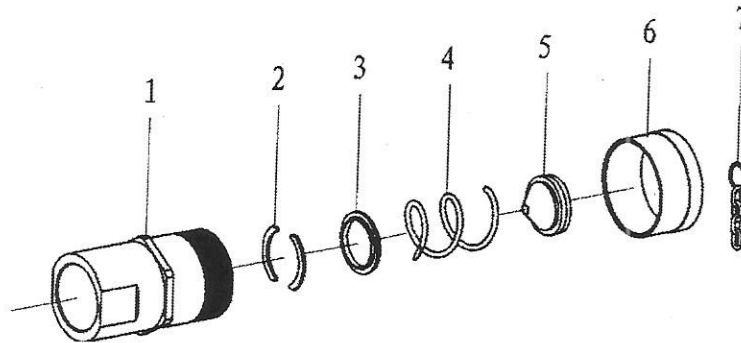

Fig. 14
11. Quick coupling (2 1/8-12UN) (Fig 14, Table 11)